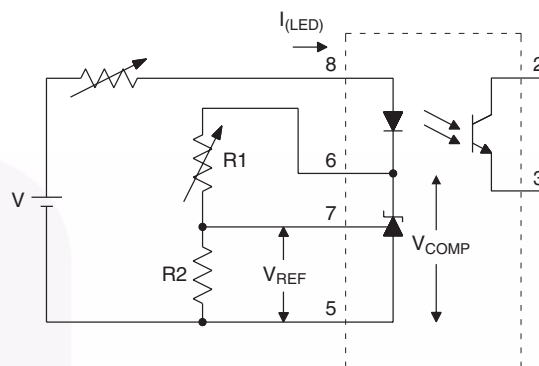

Figure 2.  $\Delta V_{REF}/\Delta V_{COMP}$  Test Circuit
| $\frac{\Delta V_{RE}}{\Delta V_{COMP}}$ | Ratio of $V_{REF}$ Variation to the Output of the Error Amplifier | $I_{LED} = 10\text{mA}$ (Fig. 2)$\Delta V_{COMP} = 10\text{V}$ to $V_{REF}$$\Delta V_{COMP} = 36\text{V}$ to $10\text{V}$ | All    |       | -0.5-0.3 | -2.7-2.0 | mV/V      |
2. The dynamic impedance is defined as  $|Z_{OUT}| = \Delta V_{COMP}/\Delta I_{LED}$ . When the device is operating with two external resistors (see Figure 2), the total dynamic impedance of the circuit is given by: